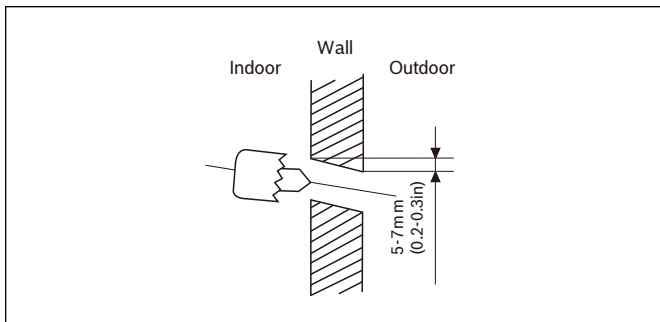

Figure 4
2. Using a 65mm (2.5in) core drill, drill a hole in the wall. Make sure that the hole is drilled at a slight downward angle, so that the outdoor end of the hole is lower than the indoor end by about 5mm to 7mm (0.2-0.275in). This will ensure proper water drainage. (See Fig. 4)